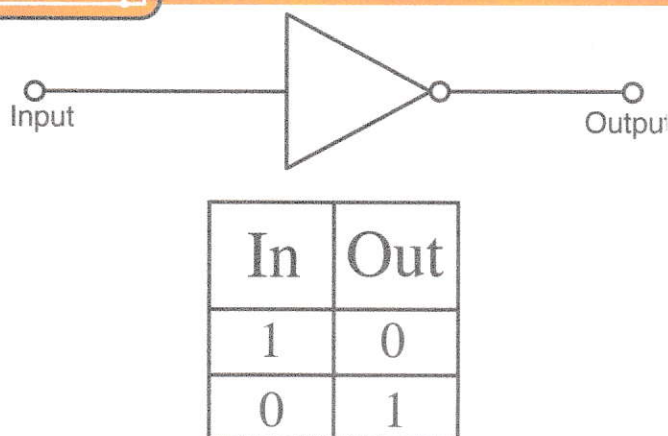

Figure 1 - NOT Logic Symbol and Truth Table
In this experiment we will study the NOT Logic circuit, also called the "Inverter". Figure 1 shows its logic symbol and the truth table. The NOT Logic Circuit has one input and one output. When the input is High (1), the output becomes Low (0). When the input is Low (0), the output becomes High (1), as shown in the truth table. The NOT Logic circuit "inverts" the logic state of the input, that is why it is called an "inverter".